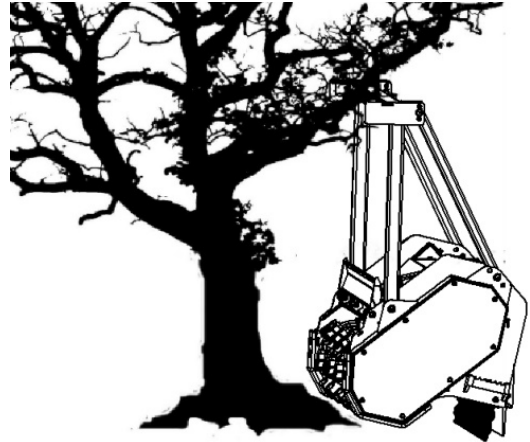

Figure 7
- Position the mulching head so it is tilted back enough to expose the drum's cutting teeth to the tree before the push bar makes contact (Figure 7).